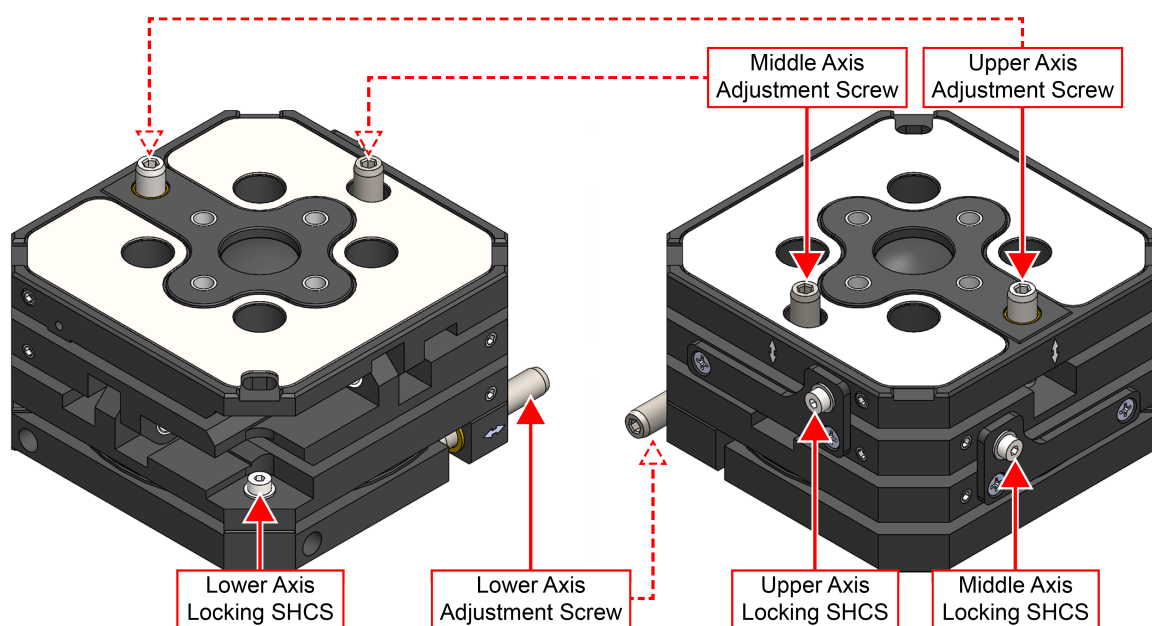

Figure 2-21: Manual Adjustment Stage (-ADJ1 Option Shown)
1. Loosen but do not remove the axis-locking M2 socket head cap screws (SHCS) (Figure 2-21).
2. Tighten or loosen the Adjustment Screws to make up to three axes of angular adjustment (Figure 2-21).